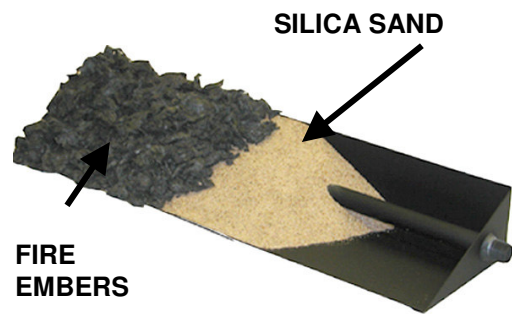

Figure 4
2. **Fire Embers** (rockwool) are placed over the sand to simulate glowing embers. For best results pinch off pieces of the Part B material the size of a dime and feather it out. Place as much as desired over the area the gas comes through. Burner should be completely full and level. **(See Figure 4)**